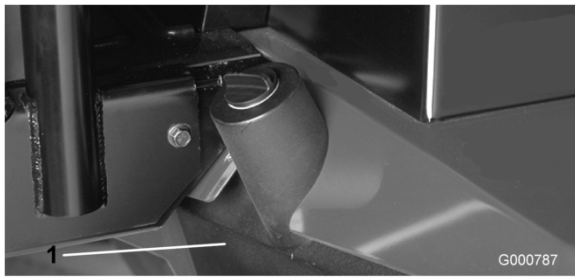

Figure 64
2. Remove drain plug from bottom of reservoir (Figure 64) and let hydraulic fluid flow into drain pan. Install and tighten plug when hydraulic fluid stops draining.